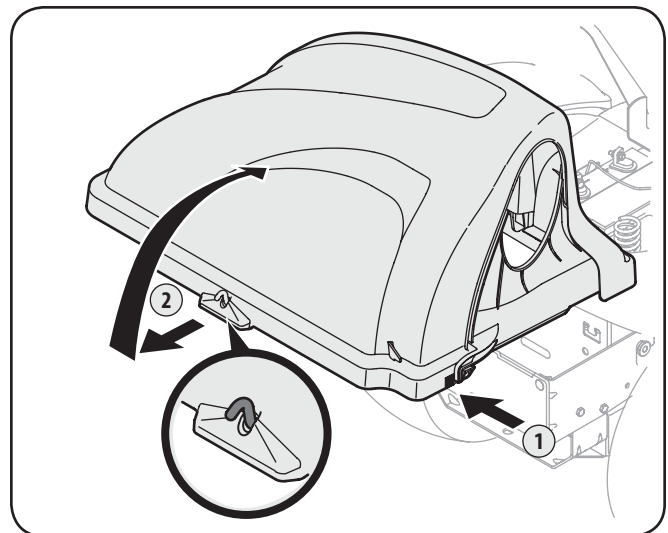

Figure 4-18
7. Open Hood by pushing in on the rear, right-side tab with your right hand, as seen in 1 of Fig. 4-18, and lifting the cover with your left hand in the center rear of the bagger cover, 2.